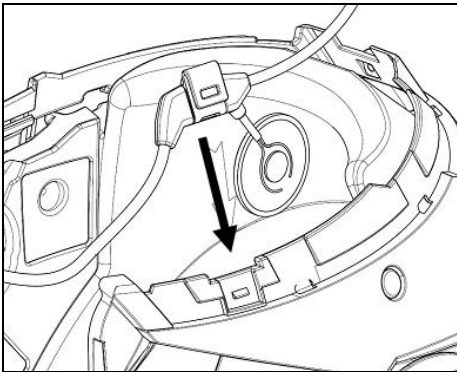

Fig. 4
- Fix the cable inside the helmet and make sure the right fixing clip snaps into its housing (Fig. 4)